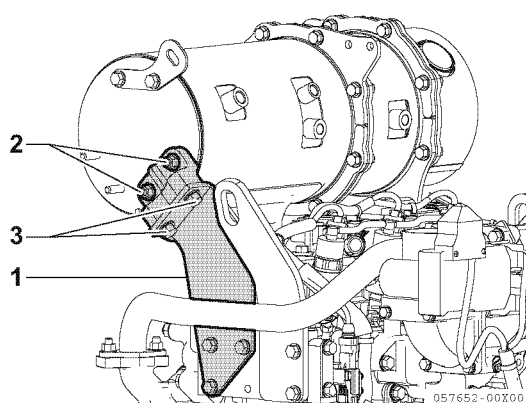

Figure 13-27
- Remove the DPF stay (**Figure 13-27, (1)**) fixing bolts (2 pcs.) (**Figure 13-27, (2, 3)**) on the other side. Stay configuration and numbers of bolts will differ depending on the model, but the method for fixing will be largely the same.